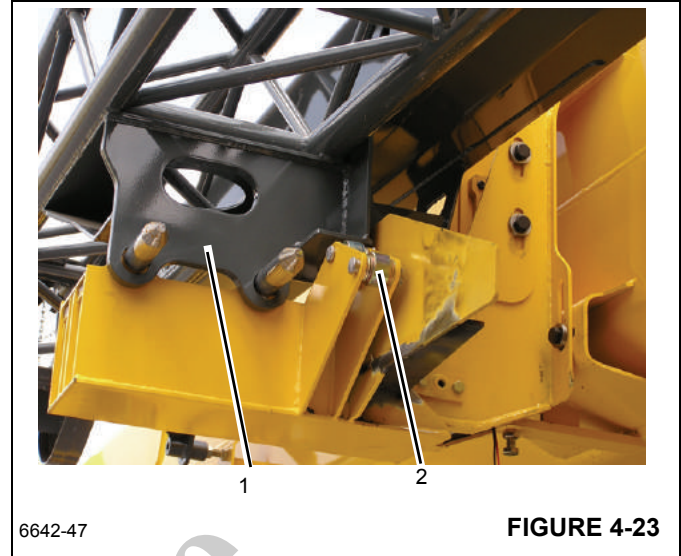

FIGURE 4-23
13. Extend the boom approximately 60.9 cm (2 feet) to move extension (1, Figure 4-23) off of the ramp (2).